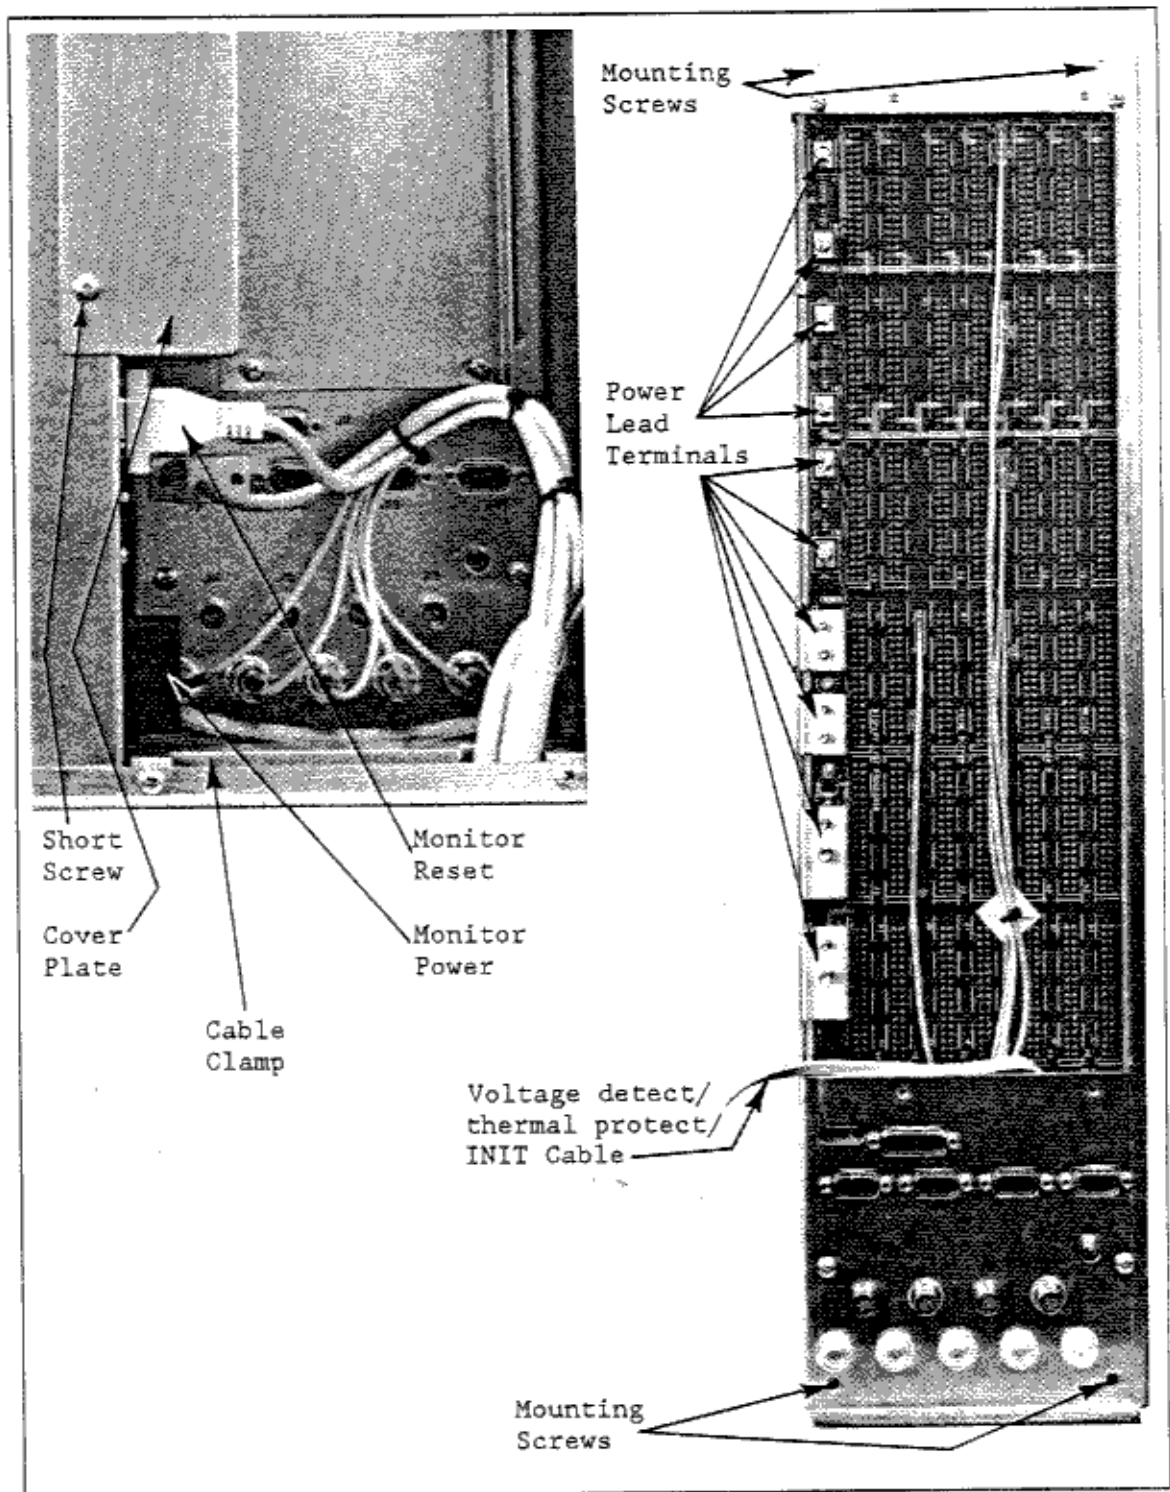

FIGURE 5-7 REMOVING BACKPLANE
6. Unplug the Voltage detect/thermal protect/INIT cable (modular phone-type) from the ACDCU, and clip the cable ties holding the cable in place (see Figure 5-7).
8. Remove two screws at the top of the backplane assembly and two screws at the bottom. See Figure 5-7 to identify the proper screws.
10. When replacing the large cover plate, be sure the short screw is installed in the bottom hole (Figure 5-7).